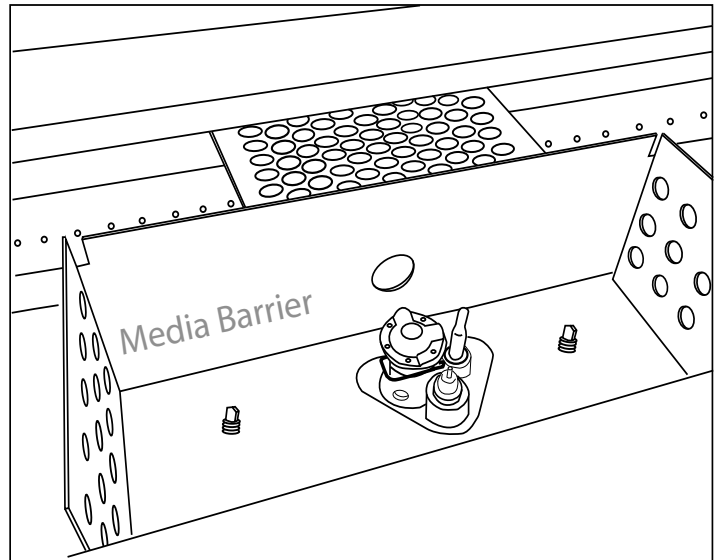

Fig. 6 Show pilot assembly under the pilot hood.
**Step 7:** On the end of the burner pan where the pilot is located (See Fig. 6), remove the four (4) 1/14" hex head screws securing the metal pilot box. Two screws are located inside the burner pan, one on each side of the ignitor box screen mesh hood and the other two are securing a metal tab on each side of the pilot box. See Fig. 6 for screw locations.